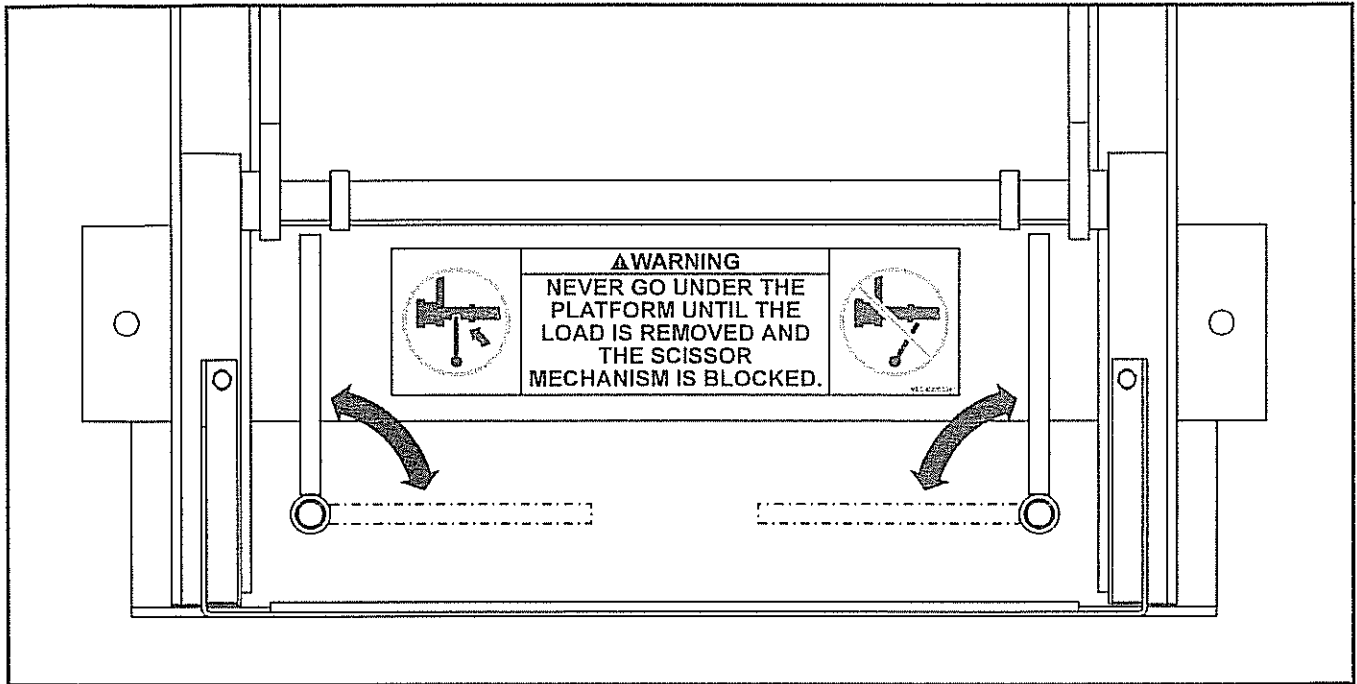

Figure 5 Maintenance Bar Operation
2. As detailed in Figure 5, rotate the maintenance bars approximately 90° so that the bars are parallel with the scissor legs. The end of the bar should be positioned between the end of the leg and the collar on the roller shaft.